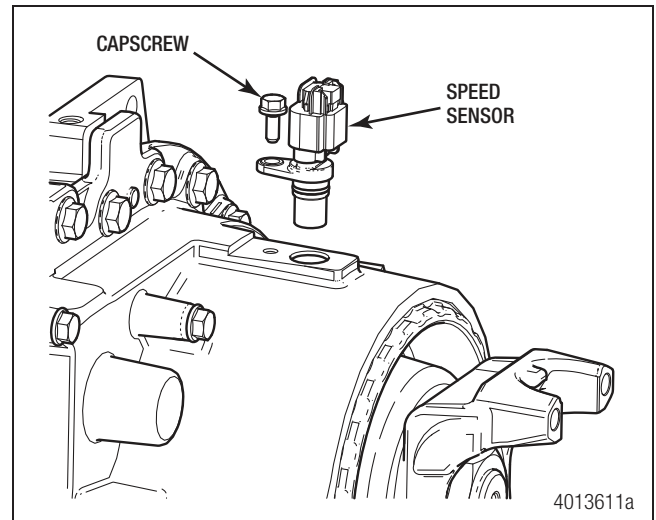

Figure 7.58
- Place the speed sensor in position on the front housing and align the bolt hole. Figure 7.58.